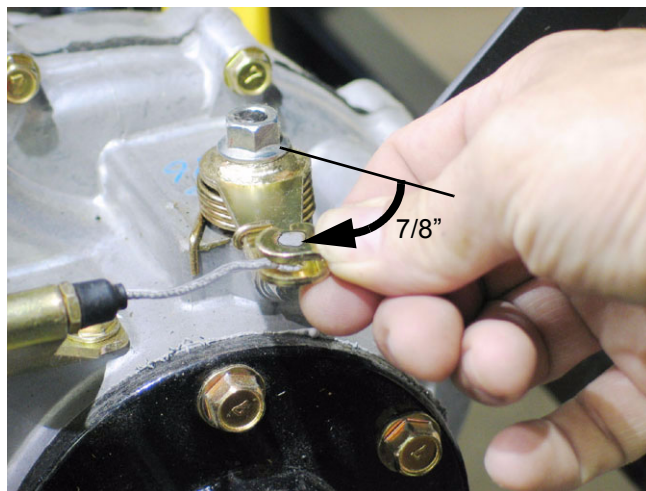

Figure 4.51
- 4.51. When fully engaged, the differential lock arm should pull forward about 7/8" (2.22 cm) as measured at the center of the barrel on the end of the cable core. See Figure 4.51.